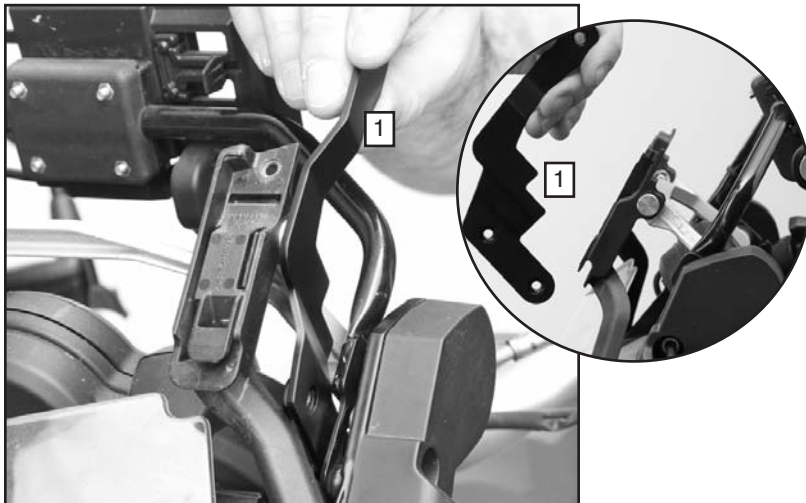

Figure 6
3. Insert the Left Bracket Arm to the *Inside* of the GPS bracket. Install c [] of the M6 Screw Assemblies through Coil Spring Cover and into Bracket Arm (1). **(5mm Allen Wrench) Figure 6 and 7.**
4. Repeat procedure on Right side of motorcycle. Tighten all Screws firmly. **(5mm Allen Wrench) Figure 6 and 7.**